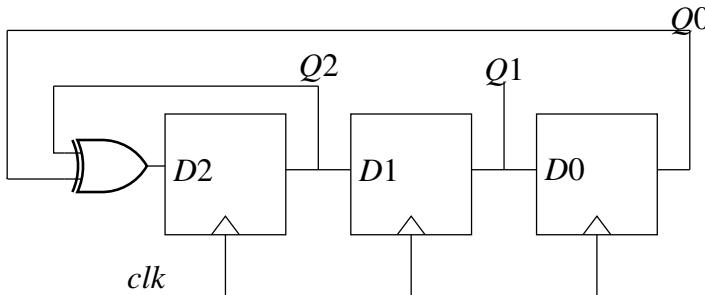

Fig. 5.5
5. The propagation delay of the exclusive-OR(XOR) gate in the circuit in Fig. 5.5 is 3ns. The propagation delay of all the flip-flops is assumed to be zero. The clock(Clk) frequency provided to the circuit is 500MHz.